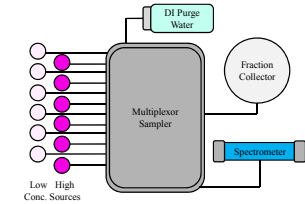

Fig. 1 : General design to define best sampling/rinsing configuration
- Alternating low and high concentrations from separate water sources (fig. 1)